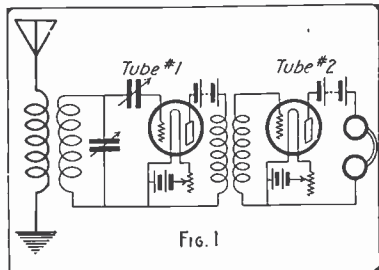
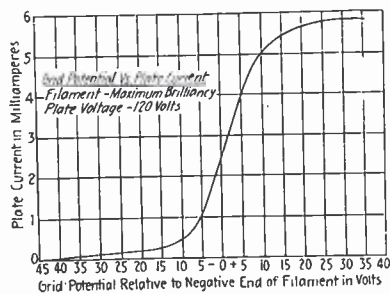
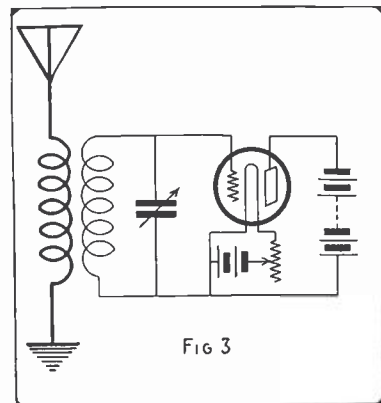

FIG. 1
FIG. 2
FIG. 3
Mark off the position for these, say at about $1/4''$ outside the first and last studs as shown in Fig. 2.
Set the dividers to the dimensions shown for the scale in Fig. 2 and carefully scribe the two semi-circular lines, cutting in fairly
Drill the two holes G' G' by placing the panel in a vise, after which, drilling will be complete. The panel should now look like Fig. 2.
The plug sockets are made by drilling (in the lathe) four 1/4" brass cheese head screws 3/8" long, as shown in Fig. 3 and rounding off the edges as shown at L.
Before the war we were in the habit of seeing the long "stove pipe" inductance coils as a part of long wave receiving apparatus. Times have changed. "The old order changeth giving place to the new." The days of the long coil are passed. The multi-layered or concentrated inductance type has taken its place. The capacity and resistance of these coils is comparatively low, and when used with the ordinary variable receiving condensers a broad range of wave lengths can be obtained. They therefore make an ideal tuning arrangement. Figure 1 shows one of the methods of connecting
Figure 2 is the diagram of the connection for the "inductive feedback." There are many ways of connecting the apparatus, and the amateur must not think that there is a set rule for doing it. Either of these connections will give good results. (Continued on page 198)
The general assembly of the switch is shown in Figure 1. This switch is designed for use with either receiving or low voltage transmitting sets. It is not advisable to allow it to handle voltages over five or six thousand. Contacts, as the reader will see, are provided for both spark and arc work and allow for wires to the north, east, south and west as well as a terminal each for antenna and ground. Additional contacts may be added, but it is seldom that a use will be found for them.
The panel which is shown in detail in Figure 2 is of black "Formica" or "Bakelite," and is to be given a dull grain finish with fine sandpaper and oil. As yet no mechanical process has been found satisfactory in applying the finish just mentioned, and even the manufacturers of commercial apparatus use the hand method. If the builder wishes to stamp letters into the panel or the flush mounting he can make a fine job of it by first heating them in boiling water. "Formica" is not hard on drills if the work is not rushed and they are kept well sharpened.
In order that the switch might be used for transmitting it is necessary that the contacts be well spaced. It's plain to the experimenter that smooth switch action could no longer be expected unless all the contacts were made flush with some surface. The necessary surface is provided by the flush mounting shown in detail in Figure 3. The mounting is of "Formica," and if but a single one is being made, is best turned out in the form of a ring and cut to size with a hack-saw. The holes for the contacts are drilled with a $\frac{1}{4}$ " drill and reamed.
The separator is turned out of $\frac{1}{2}$ " brass rod and drilled with a No. 13 drill. The knob, switch blades and separator are now driven onto the shaft as shown in Figure 1.
Figure 1 gives the dimensions of the magnet core. It consists of a soft piece of iron $\frac{1}{2}$ inch in diameter by one inch long. Over an insulation of empire cloth is wound four layers of No. 24 SCC magnet wire. The winding covers but $\frac{3}{4}$ of the core—the remaining quarter inch is employed for holding same in the base, which has a hole bored slightly smaller than the diameter of the core.
A piece of $1/32$ " spring brass, shown in Figure 2, measuring $2\frac{1}{2}$ inches long— $1/2$ " (Continued on page 203)
Consider now the curve shown in Figure 2, which gives the grid potential VS plate current characteristics of the average three electrode vacuum tube. It will be seen that should the grid potential be at zero when the tube is connected in a circuit, as shown in Figure 3, and a negative charge be impressed on the grid the plate current will drop sharply. Conversely, were a positive charge placed on the grid the plate current would jump in value. Consequently, when the secondary circuit of Figure 3 is put in oscillation by an incoming wave the grid is alternately negatively and positively charged, each variation of the grid potential affecting the plate current. In this manner a current at radio frequency will flow in the plate circuit.
shape of "L." The upright to be three inches long and the bottom part one-half inch. Now drill two small holes in the upright, depending on size of thumb screw and small bolt used. Next a small hole in the bottom part to hold upright in place. The hole, O, in the iron piece is to be threaded. Fig. 2, article "J."
Figure 2 (A) small horn 3x2 inches which can be dispensed with, as it merely increased the volume of the sound emitted by the reproducer. (B) Phonograph reproducer mounted in wire loop (D) which is attached to two binding posts (E). (F) Coil (preferably wound with No. 40 B. & S. enameled wire) This small coil is wired to the two small binding posts on the back of the board. (G) Small horseshoe magnet taken from A, Bi-Polar receiver. (H, I, J.) Upright arrangement made from iron strips (No. 2 in Fig. 1) and brass strip (No. 3 in Fig. 1) and A, thumb screw for pulling "H" toward "J" to adjust steel wire "C."
Take the old bi-polar receiver apart and if the winding on one of the coils is not good take the wire off and rewind with No. 40 enameled copper wire; wind very carefully so as to enable the coil to operate good. Now take the horseshoe magnet that was in the receiver and put the coil between the poles and use the same brass bolt that was in the magnet at first to hold the coil in place; use some thin sheets of brass to bush the coil so that it is half way between the positive and negative pole. Figure 2, articles F and G.
longer part to be one and five-eighths inch long and the bottom, "L," being one-half by one-half inch. Drill a hole as shown to take the small bolt used to fasten same to the iron upright described above. Fig. 2, article "H."
Take the phonograph reproducer and remove the weight and the point which will give you access to the small loop fastened to the center of the diaphragm. You are now ready to mount the reproducer in the brass strip, "D," Fig. 2.
Figure 1 shows the way in which the loop for holding the reproducer and the
Figure 3 gives the layout of the base board.
The supports (a) and (d) must be made of some good insulating material, such as hard rubber, bakelite, etc., as it is essential that the tubes be thoroly insulated to prevent losses, the support (d) is drilled as shown in Fig. 3, the hole being slightly smaller than the tube (c), this tube can